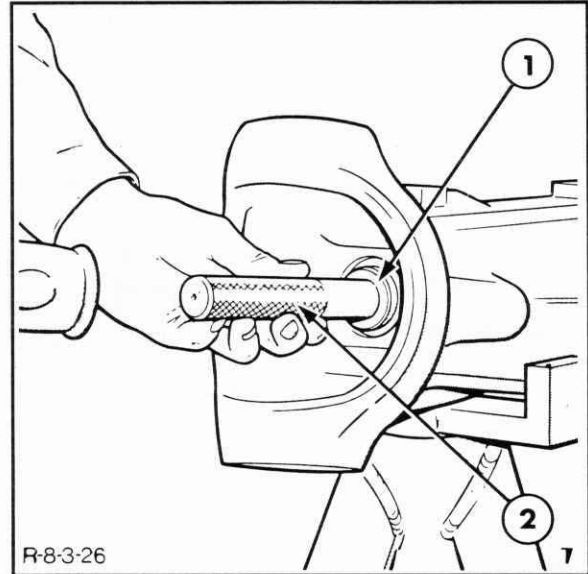

Figure 7-91
6. Where necessary, drive in new bushings, Figure 7-91, using the following tools with driver handle No. 550: